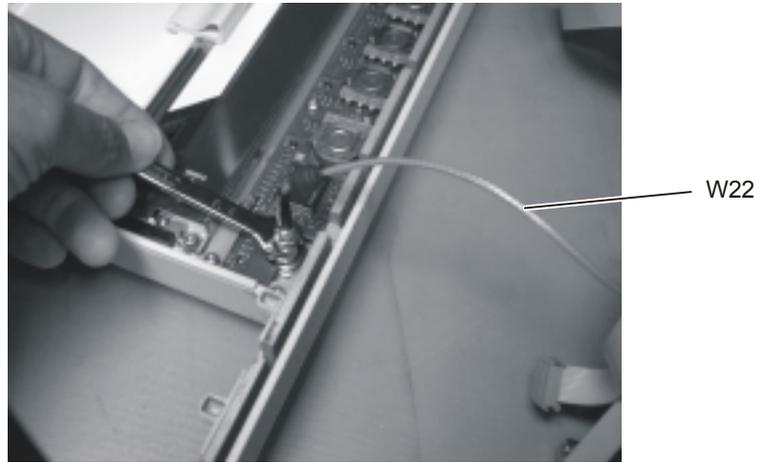

Figure 4-13. Removing the Front Panel Trigger Cable
- 9 Use a 5/16 inch wrench to remove the W22 cable from the front panel trigger input, as shown in Figure 4-13.